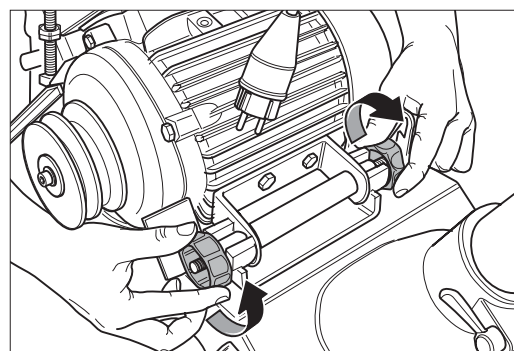

Fig. 22 Loosen the two motor nuts ...
- 6 Release the motor nuts. The motor nut must only be backed out from the fitting between the motor nut and motor bearing bracket, and not completely removed (Fig. 22 and 23).